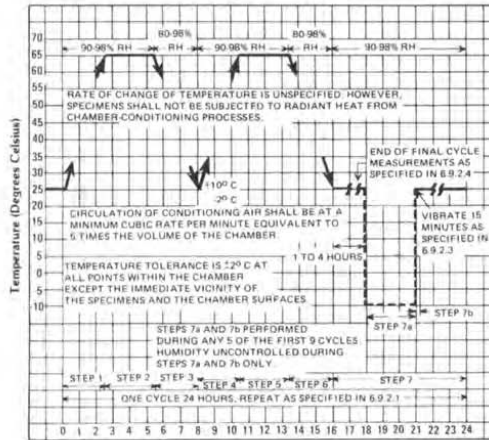

Figure 2
**6.9.2.1 Cycles** — Ten cycles shall be performed as specified in Figure 2.